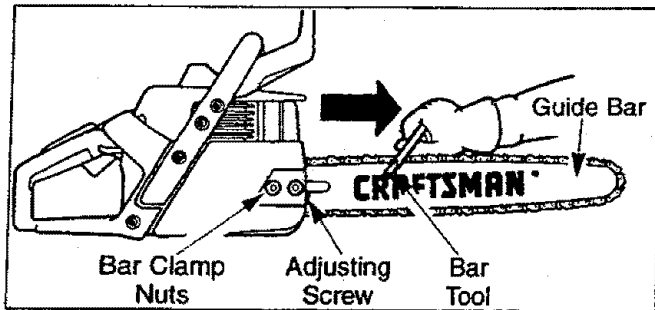

Figure 43
- Use the screwdriver end of the bar tool to move chain around the guide bar (Figure 43).